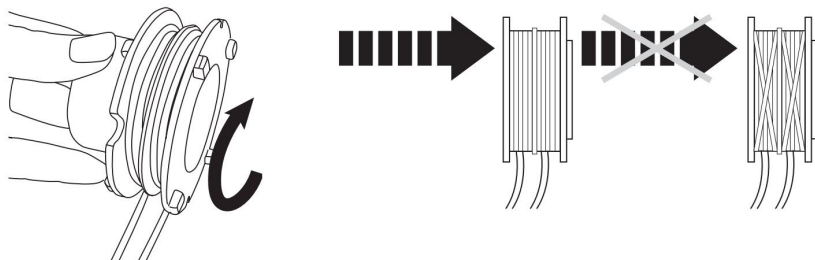

Fig. 66
3. Wind the lines in clockwise direction firmly around the spool, ensure they are properly in the respective guide. (Fig.66)